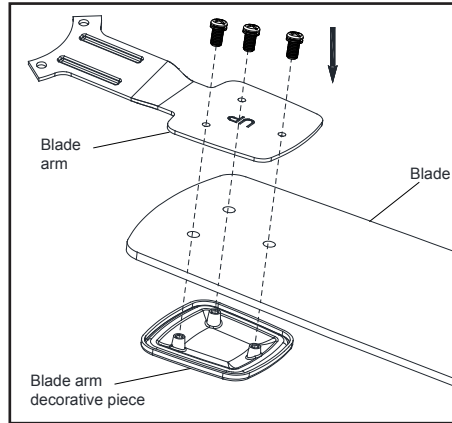

Figure 12
1. Attach blade to blade arm and blade arm decorative piece by inserting the blade arm screw holes into the three screw holes in the blade. Secure using the blade attachment screws provided (Figure 12).